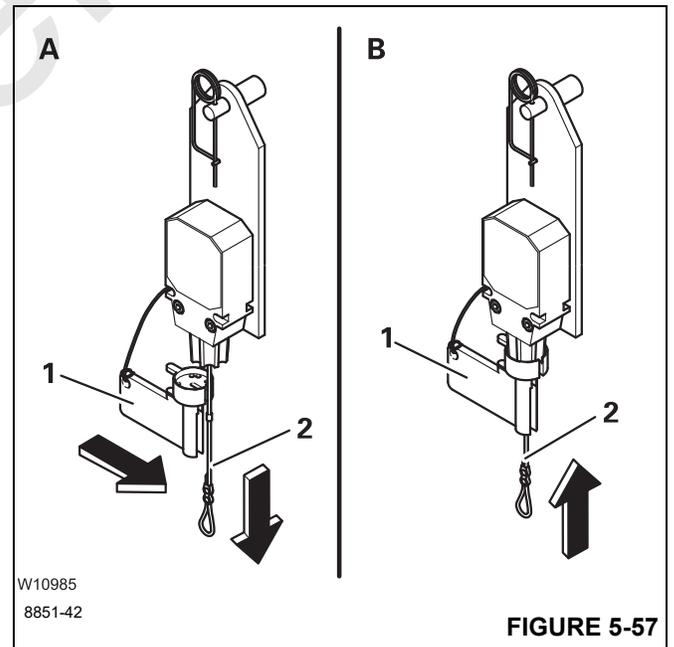

FIGURE 5-57
- (A), (Figure 5-57) – Remove the cap (1).
- Pull the rope (2) down; the anti-two block switch is triggered.
- (B), (Figure 5-57) – Secure the rope (2) in this position using the cap (1).